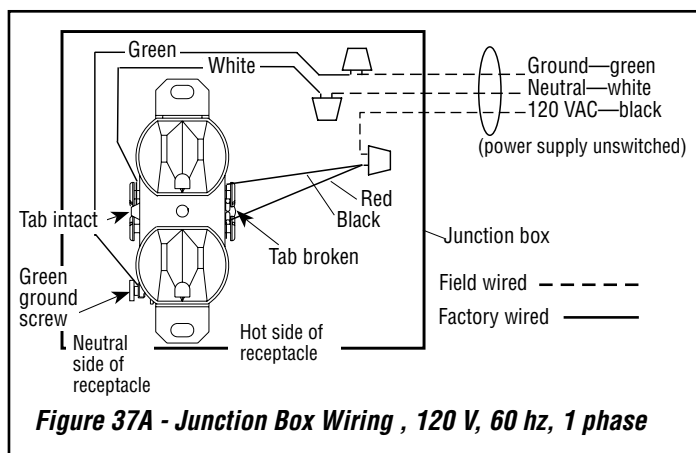

Figure 37A - Junction Box Wiring , 120 V, 60 hz, 1 phase
4. Connect the black power supply wire to the power outlet red and black pigtails together. Connect the white power supply wire to the outlet common terminal (**Figure 37A**).
5. Connect the ground supply wire to the pigtail lead attached to the outlet's green ground screw (**Figure 37A**). Restrain the inlet power lead per NEC or local codes.